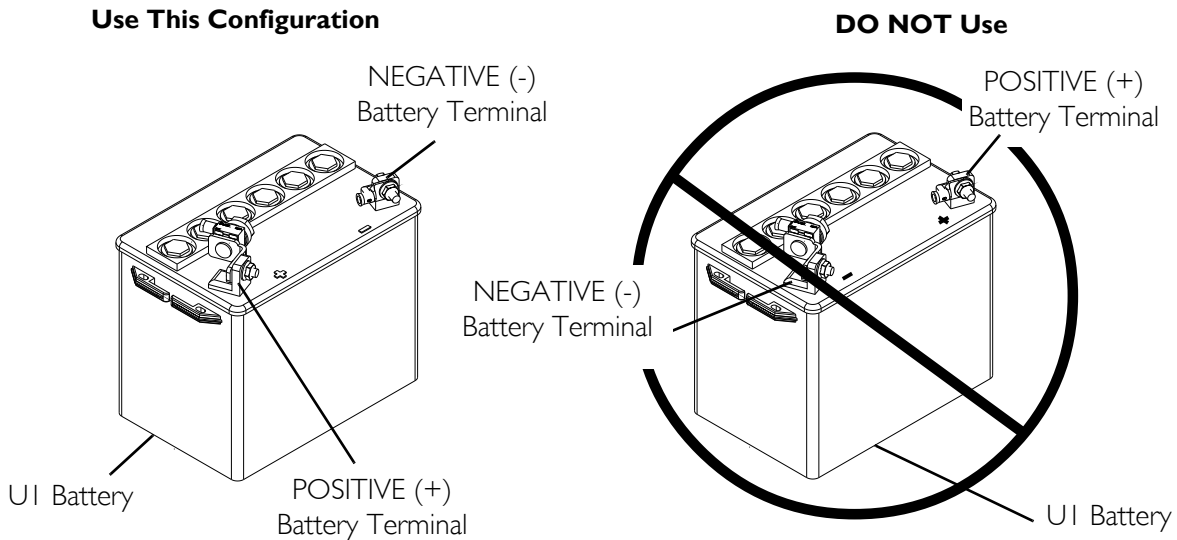

FIGURE 12.1 Using the Proper Batteries
NOTE: For this procedure, refer to FIGURE 12.1.
2. Visually draw a horizontal and vertical centerline through the middle of battery (FIGURE 12.1).
4. Visually inspect the battery to ensure the correct position of the POSITIVE and NEGATIVE terminals (FIGURE 12.1).